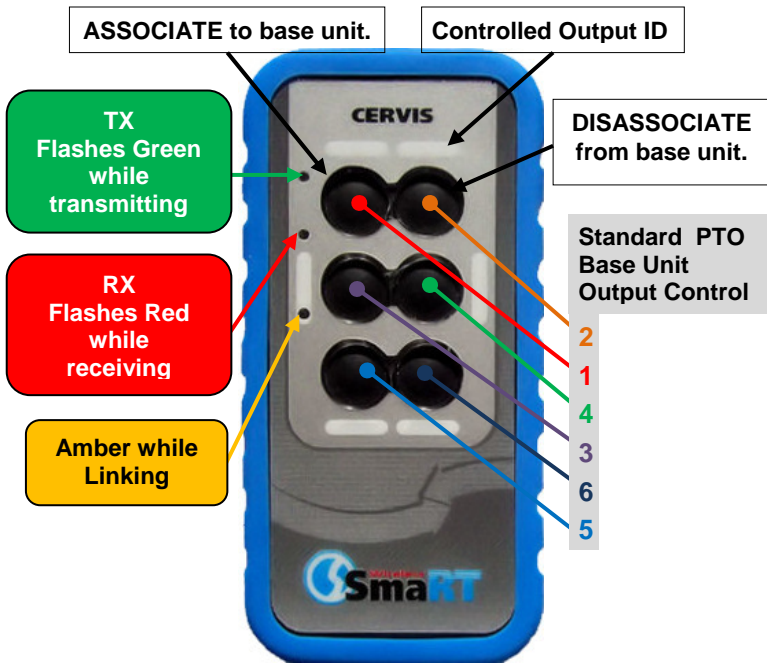

Figure 5. PTO-906 Front Panel
The front panel of the SmaRT PTO-906 Handheld Remote has Six (6) push-to-operate buttons and three (3) diagnostic LEDs. PTO buttons 1 and 2 have dual functions as described in Figure 5. Each button has an area adjacent to it in which you can use a pen or a marker to write an ID for the button.